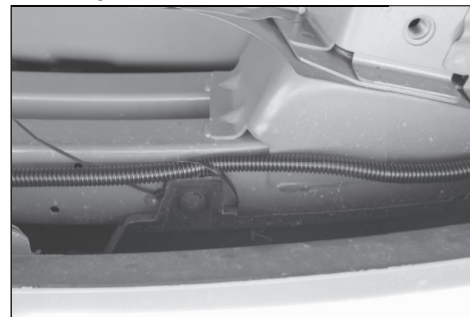

Figure 3
8. Position the silver heat shield so that the conduit near the exhaust is covered and secure each end with a cable tie. Secure the conduit to frame rail with cable ties shown in **Figure 3**.